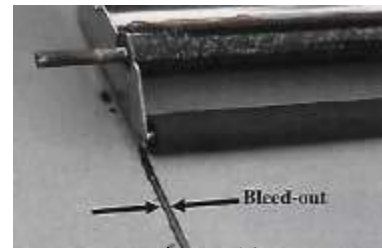

Figure 10
- vi. To maintain even bleed-out (Fig. 10), adjust the speed of the unit by moving the joystick up to increase speed or down to reduce speed
- vii. To maintain even bleed-out (Fig. 10), adjust the speed of the unit by moving the joystick up to increase speed or down to reduce speed